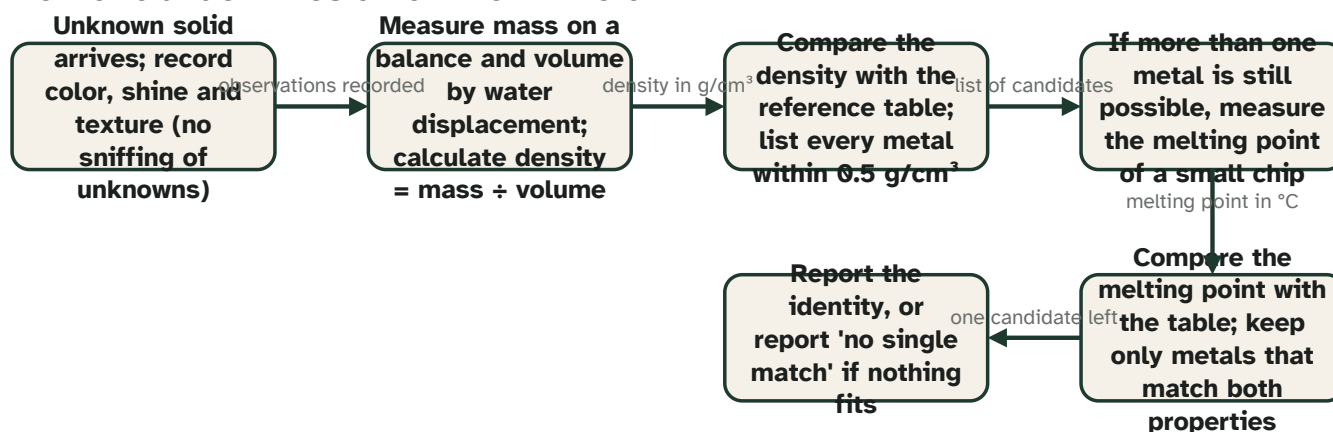

Figure 2. The sequence a materials lab follows for an unknown solid. Each arrow label tells you what result sends you forward.
4. An unknown bluish-gray chip has a mass of 42.8 g and raises the water level in a graduated cylinder from 50.0 mL to 56.0 mL. Follow Figure 2: calculate its density and name every metal in the table within 0.5 g/cm^3 of your result.
5. In Figure 2, when more than one metal is still possible, the flowchart sends you to measure a **different** property instead of measuring density again. Why?
7. Figure 2 says to measure the melting point of a 'small chip,' not the whole sample. Give two reasons this is good practice. One reason must use the idea that melting point is an identifying property.
All table values are real rounded references (densities in g/cm³ and melting points in °C at normal pressure): magnesium 1.74/650, aluminum 2.70/660, zinc 7.14/420, iron 7.87/1538, copper 8.96/1085, silver 10.5/962, lead 11.3/327, gold 19.3/1064; cork about 0.24 and vegetable oil about 0.92. The brass values in q9 (about 8.5 g/cm³, melting around 900 to 940 °C) are typical for common brass and vary with composition, which is the point. Figure 2 omits the acid 'solubility' tests the textbook describes for metals; a metal that disappears in acid is reacting, not dissolving, so this sheet keeps solubility for W8 where it is used with sugar and salt in water. The flowchart task is paper only; do not have students melt metals. If students ask why color is recorded but never used to decide, point to the three silvery-gray entries in the table.